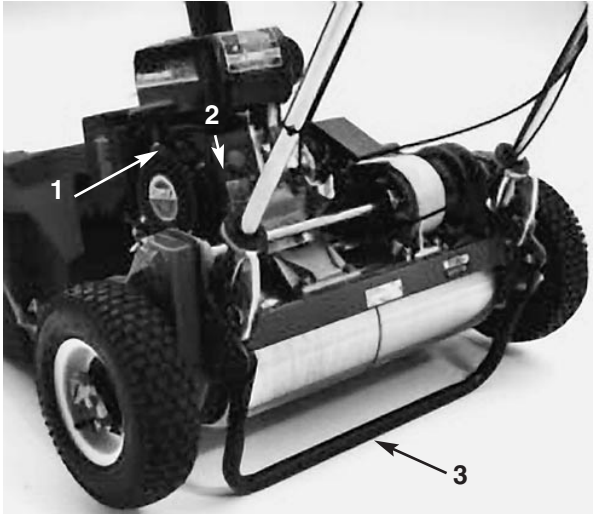

Fig. 16
Recoil Starter (Fig. 16)—Pull the recoil starter handle to start the engine.
Kick Stand (Fig. 16)—Located at the rear of the machine, the kickstand is used to raise the rear of the machine for installation or removal of transport wheels.
3. Move the ON/OFF switch (Fig. 16) to ON.